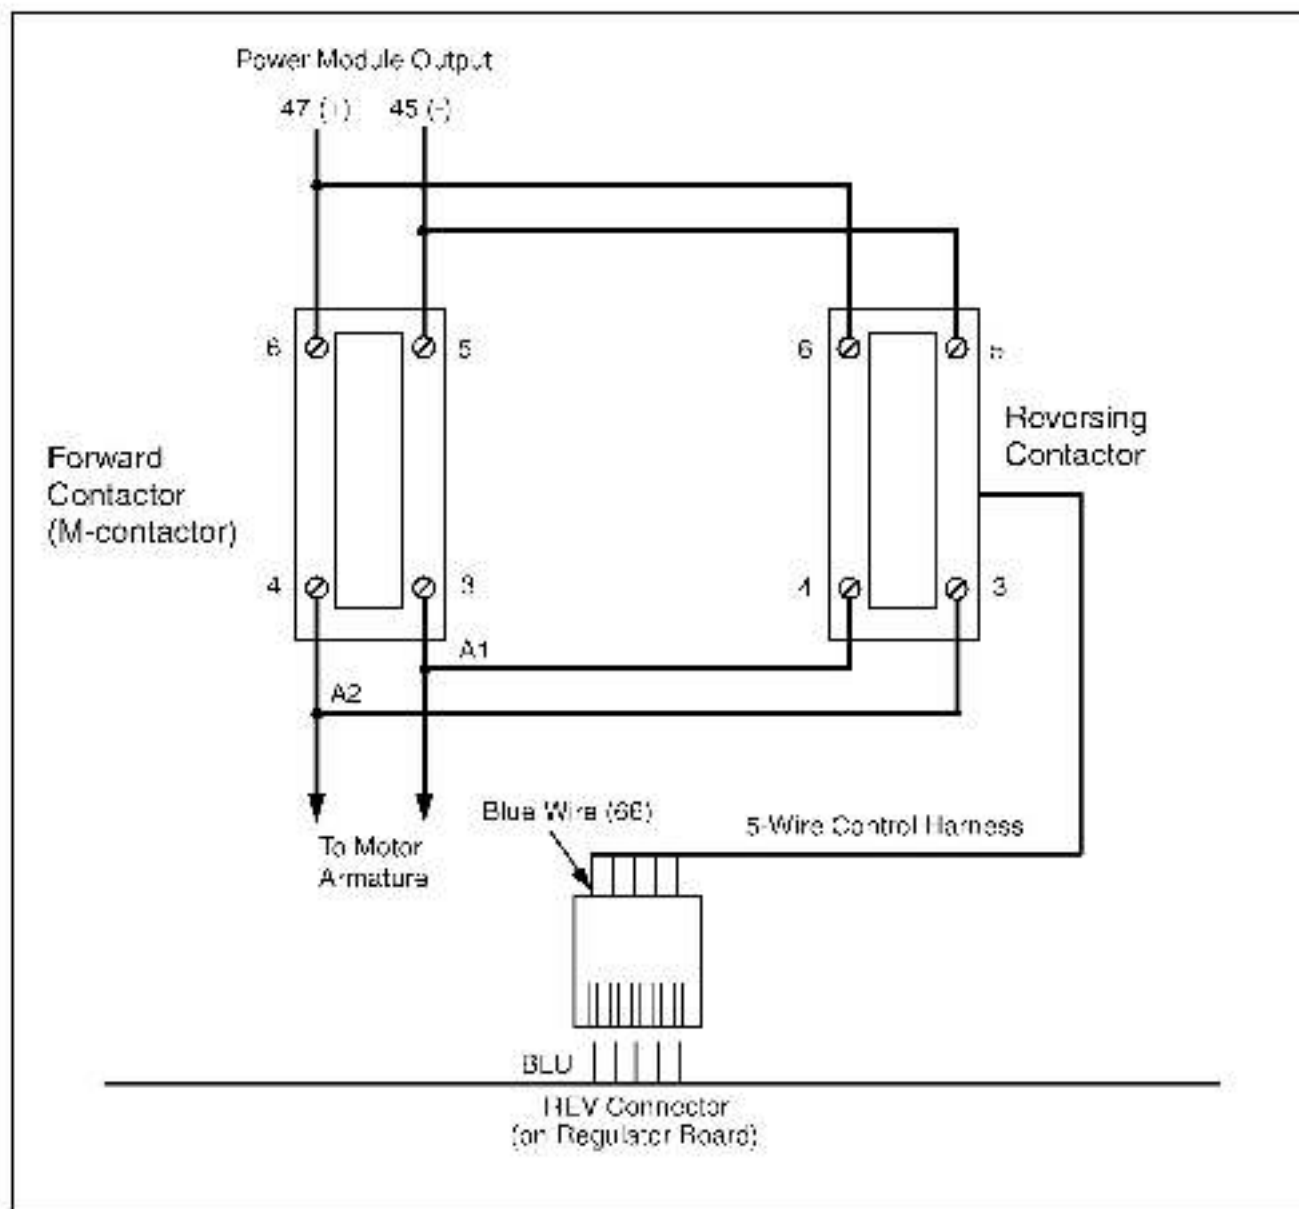

Figure 1 – Power and Control Wiring
Refer to figure 1 and to instruction manual D-3900 to identify drive terminals and connectors. To install the Reversing Contactor in your non-regenerative FlexPak Plus DC drive:
- Step 12. **Drives with Dynamic Braking Kits Installed:** Connect the Dynamic Braking kit between the two corresponding normally-closed (NC) contacts on the M-Contactor and the Reversing Contactor. Refer to instruction manual D2-3378 for information on installing the Dynamic Braking kit.
Step 13. Route the Reversing Contactor's 5-wire control harness behind the front bar of the auxiliary mounting bracket. Connect the harness to the pins marked "REV" at the top center of the drive's Regulator board. Orient the connector so that the blue wire (66) connects to the pin labeled "BLU." Refer to figure 1.